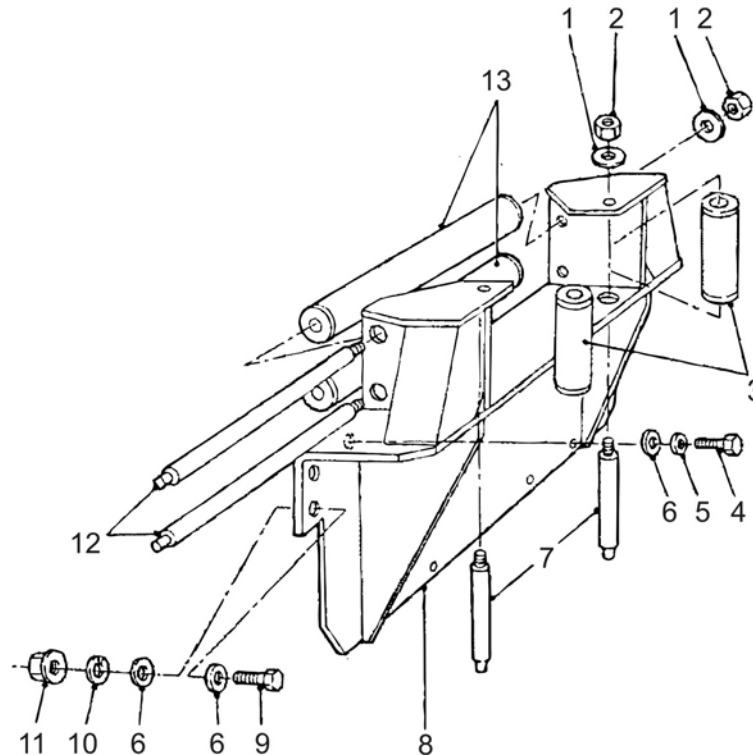

Figure 10 Winch Mounting and Roller Assembly – Exploded View
- (2) Remove the hardware attaching the winch mounting and roller assembly (Figure 10) to the winch assembly.